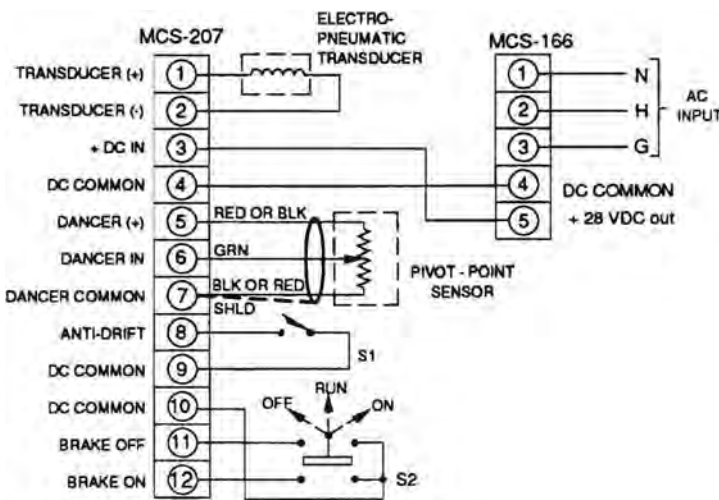

Figure 9. MCS-166/MCS-207 Wiring Single or Dual Brake
Refer to connection diagrams, Figure 9, page 11, for wiring connections.
NOTE: For single brake off function only, use a Single Pole-Single Throw, maintained contact switch. For both functions, a three position switch as shown in Figure 9, page 11, is recommended.
- 6. Double check all wiring connections per Figure 9. Insure all terminals are tight.
- 7. Reconnect the front housing of either wall or shelf mounting and secure the latches. If shelf mounting is used, secure the housing with the four (4) bolts for each section.